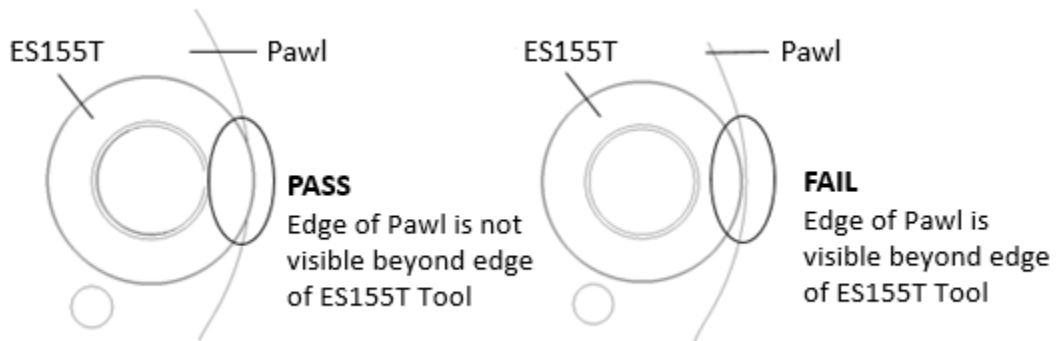

FIGURE 12
- d. If the edge radius of the pawl extends beyond the edge of the ES155T gauge, then the impulse cam assembly is worn and must be replaced and discarded. Reference Figure 12.